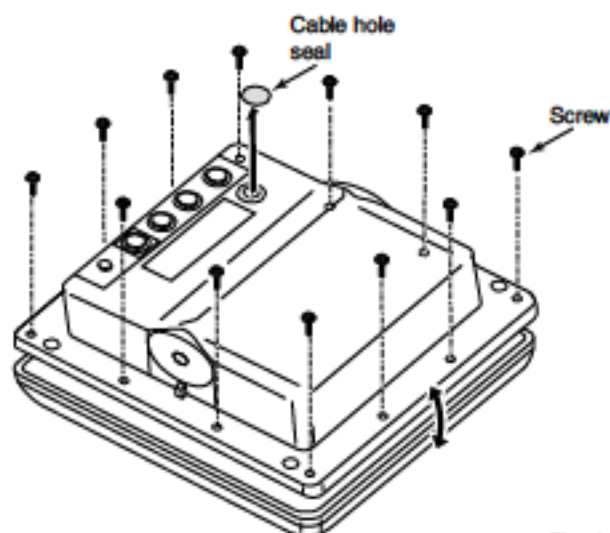

Fig. 1
1. Remove the cable hole seal on the left of the serial number label of the display unit. (Fig. 1)
2. Remove the 12 screws from the display unit's rear panel. (Fig. 1)
3. Slowly open the rear case and disconnect the four connectors from the display's main board. (Fig. 1)